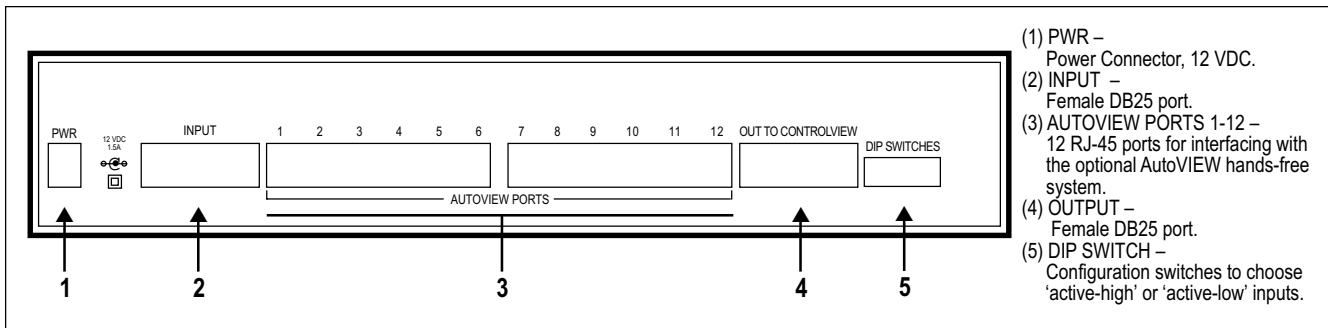

Figure 2 – Rear panel diagram of AutoVIEW Control Expander showing AutoVIEW ports and DB25 out to ControlVIEW Xtreme.
The StepVIEW System uses the AutoVIEW Control Expander (formerly the ControlVIEW Control Expander) and up to twelve (12) mats can be used when attached to the AutoVIEW ports on the AutoVIEW control Expander (see Figure 2, page 2). The RJ-45 AutoVIEW ports power both the StepVIEW Interface Controller and the StepVIEW Mats.